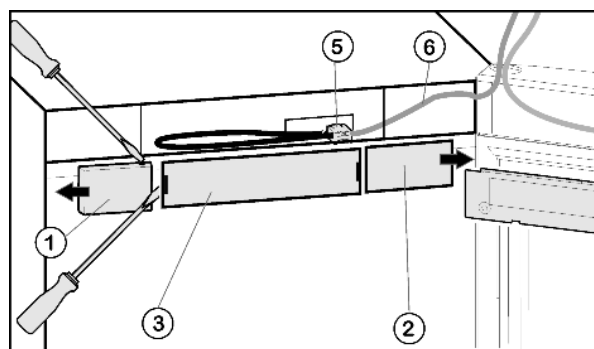

Fig. 4
- ▶ To remove the cover on the handle side Fig. 4 (1): disengage on the right using a flat-blade screwdriver and slide it outwards.
- ▶ To remove the cover on the hinge side Fig. 4 (2): disengage on the left using a flat-blade screwdriver and slide it outwards.
- ▶ Remove the front panel Fig. 4 (3) using a flat-blade screwdriver.
- ▶ Remove contact and disconnect plug connector Fig. 4 (5).
- ▶ Detach grey cable Fig. 4 (6) from the guide.
- ▶ Re-connect the plug connector Fig. 4 (5).
- ▶ Re-fit the cover Fig. 4 (3).
- ▶ Turn the cover Fig. 4 (2) 180°, attach and engage it on the hinge side.